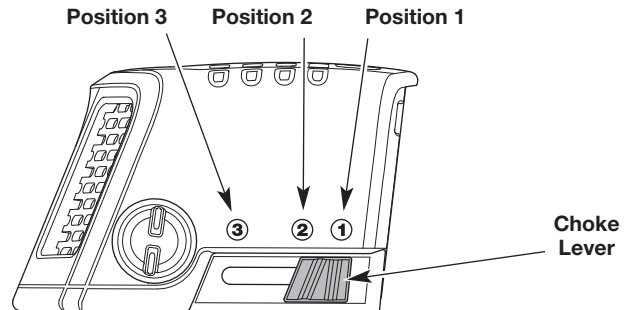

Fig. 11
4. Move the choke lever to **Position 1** (Fig. 11).
7. Continue to squeeze the throttle control. Move the choke lever to **Position 2** (Fig. 11).
10. Continue to squeeze the throttle control. Move the choke lever to **Position 3** (Fig. 11) and continue warming the engine for an additional 60 seconds. The unit may be used during this time.
**IF...** the engine hesitates, return the choke lever to **Position 2** (Fig. 11) and continue the warm-up.
8. Continue to squeeze the throttle control. Move the choke lever to **Position 2** (Fig. 11).
12. Continue to squeeze the throttle control. Move the choke lever to **Position 3** (Fig. 11) and continue warming the engine for an additional 60 seconds. The unit may be used during this time.